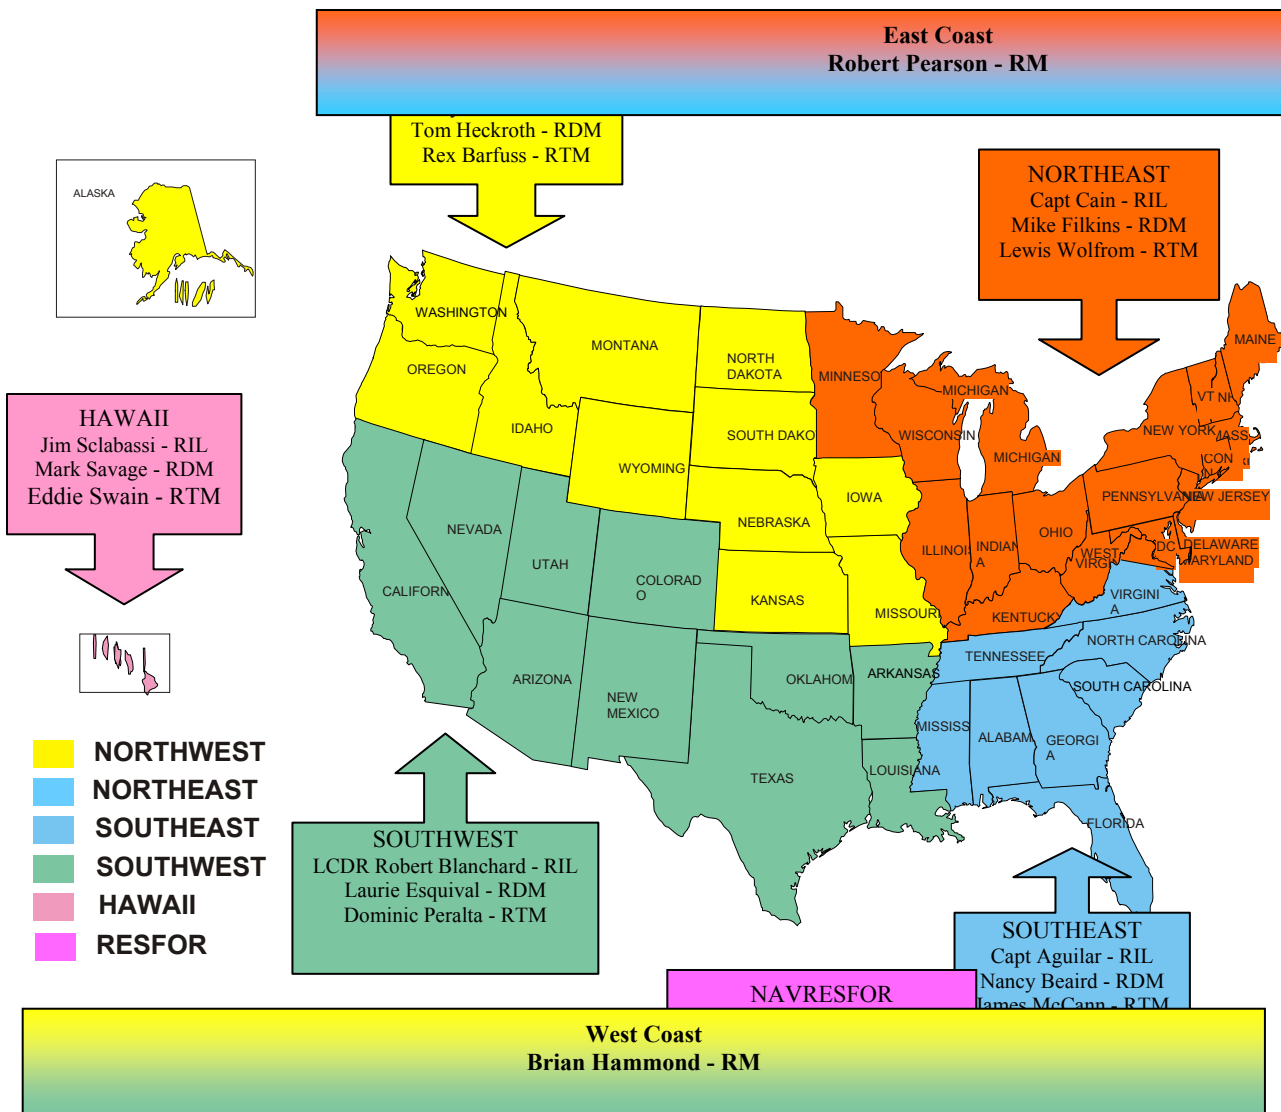

Figure 2. Regional Map
- 1.4 The NMCI Navy PMO is committed to providing the customer with the required information, and the necessary support staff consistent with priorities, schedules and resources, to bring about an effective transition for each site in each Claimancy. The goal of this document is to provide critical guidance to the prospective SIL to ensure that the program objectives for NMCI are implemented in an effective and timely manner. Figure 2 illustrates the timeline for these actions.